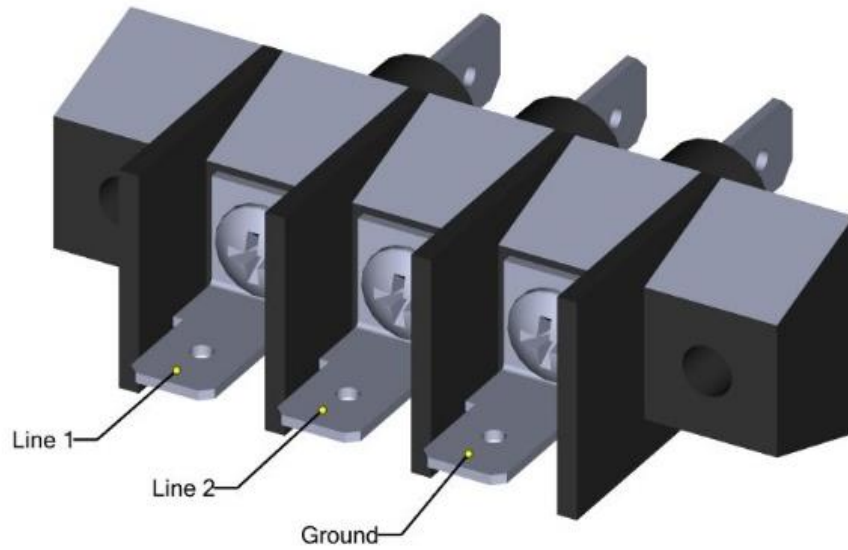

Figure 5: Power Terminal Block
5. Connect from left to right, Line 1, Line 2 and Ground. (See Figure 5: Power Terminal Block)
6. Once power is securely connected, install terminal box cover, using the (2) screws.